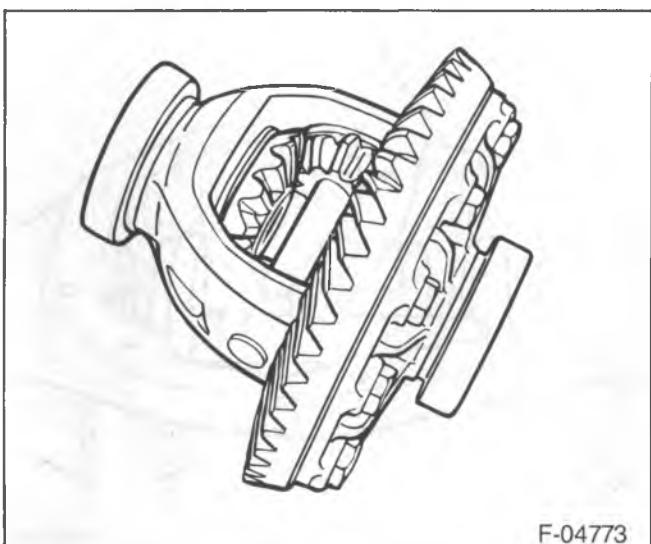

Figure 21—Differential with Master Bearings
- Master differential bearings D-117 to the differential (figure 21).